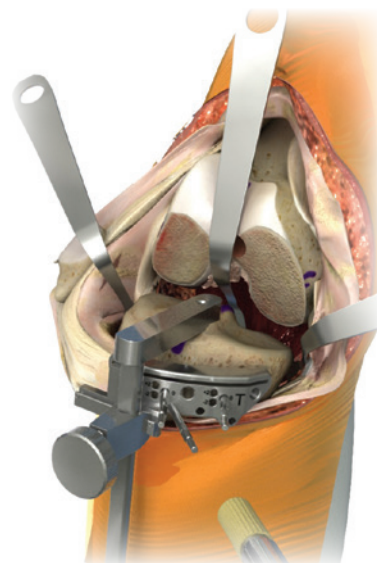

Figure 30
7. Pin the Universal Cutting Block to the tibia by inserting pins first through the central holes; then the medial hole (Figure 30).